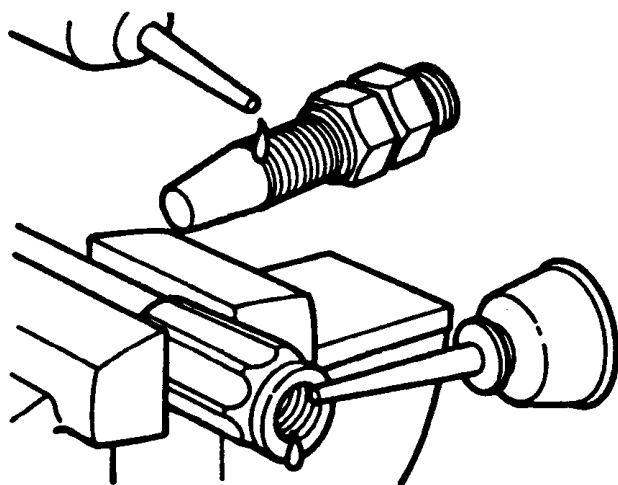

Figure 96 Lubricate Socket and Fitting Threads
8. Reposition hose and socket in the vise as shown in Figure 96 . Lubricate hose socket and fitting threads. Use light weight engine oil sparingly.